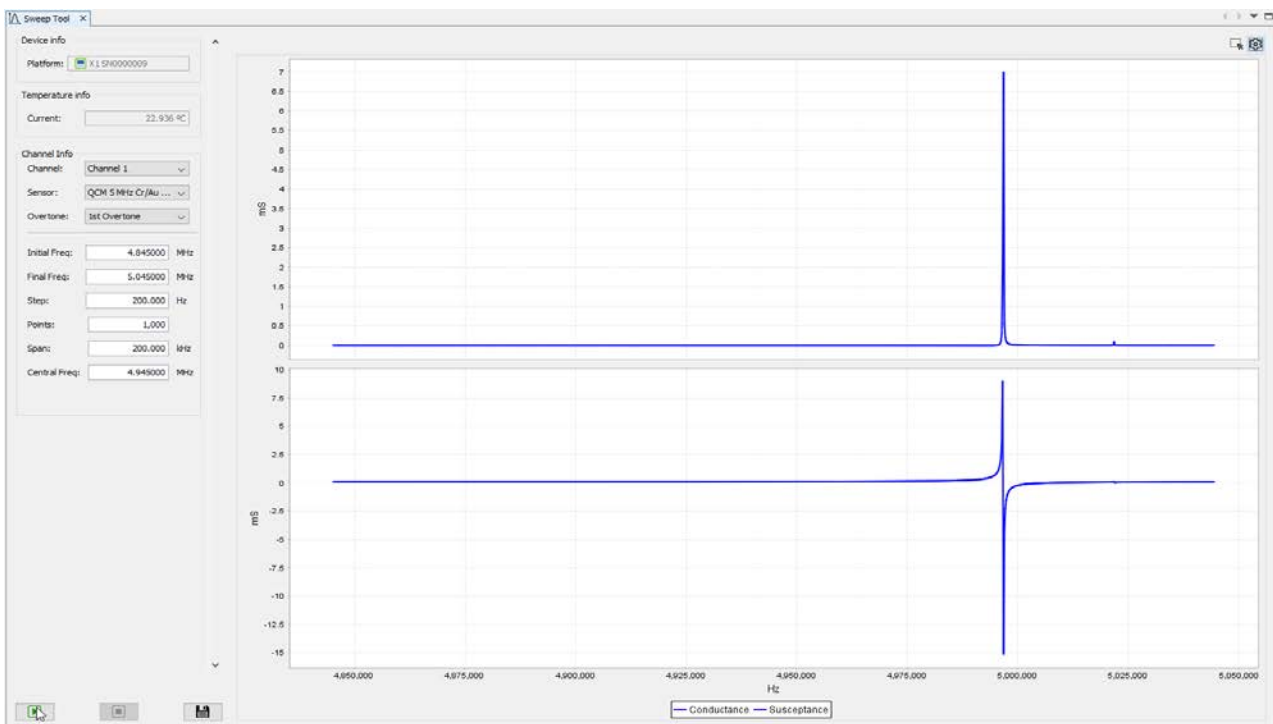

Figure 3: Image of Sweep Tool after a sweep with standard values (QCM 5MHz Cr/Au sensor) has been performed on a particular 14 mm, 5 MHz custom sensor.
5. Start a sweep with the default parameters for the selected sensor configuration. Figure 3 shows the sweep for a 14 mm, 5 MHz sensor. A very narrow conductance peak is observed, typical for the measurements in air.
resonance by modifying **Initial Freq/Final Freq** or **Central Freq./Span** fields in Figure 3. Keep the # of **Points** at 1000. Figure 5 shows a sweep of the same sensor acquired with a **Span** of 1 kHz instead of the initial 200 kHz span (as shown in Figure 4).